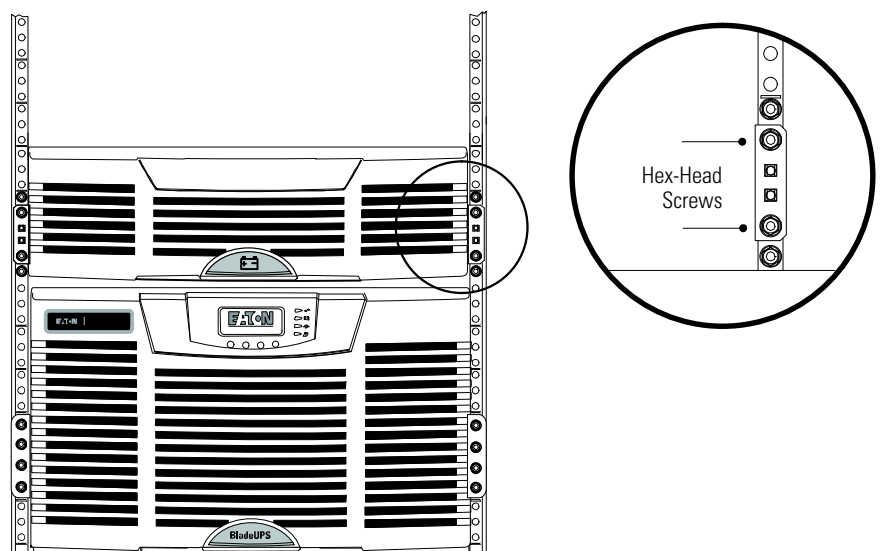

Figure 24. Securing the EBM Mounting Brackets
11. Secure the front of the EBM to the rack using two hex-head screws in each mounting bracket as shown in Figure 24.